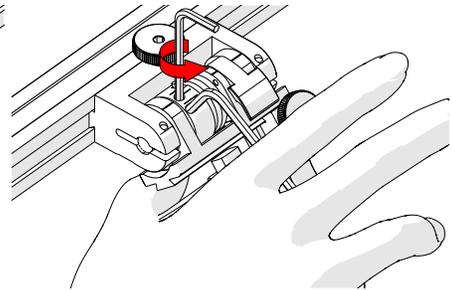

Fig. 113 - Press 3 mm hex wrench down
5. Lightly press the long arm of the 3 mm hex wrench down. Using the 2 mm hex wrench, loosen the force adjustment screw but do not remove it (Fig. 113).